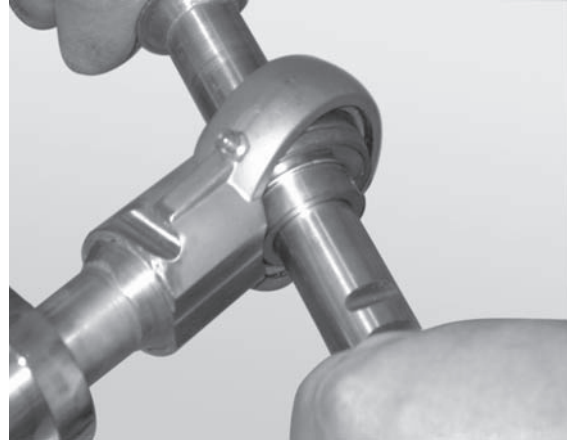

**Figure 71**
3. Install pinch guard shaft (**Figure 71, item 1**) onto pinch guard (**Figure 71, item 2**).
4. Install pinch guard (**Figure 71, item 2**) onto alignment bar (**Figure 71, item 3**), and onto each side of drive spindle (**Figure 71, item 4**).
5. Install bearing shaft assembly (**Figure 71, item 5**) onto rod (**Figure 71, item 1**) and drive spindle (**Figure 71, item 4**). Slide bearing shaft assembly onto the drive spindle on opposite side.
6. Use a hex wrench to install the two set screws (**Figure 71, item 6**). Use a torque wrench to tighten them to 54 in•lbs (6 N•m). Check after 24 hours of conveyor use.
7. Attach the bearing cover onto bearing shaft assembly (**Figure 71, item 5**).